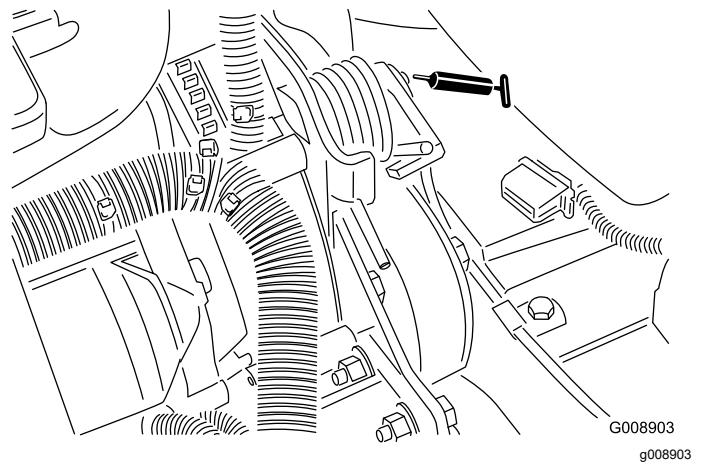

Figure 42
- Belt-tension pivot (Figure 42)